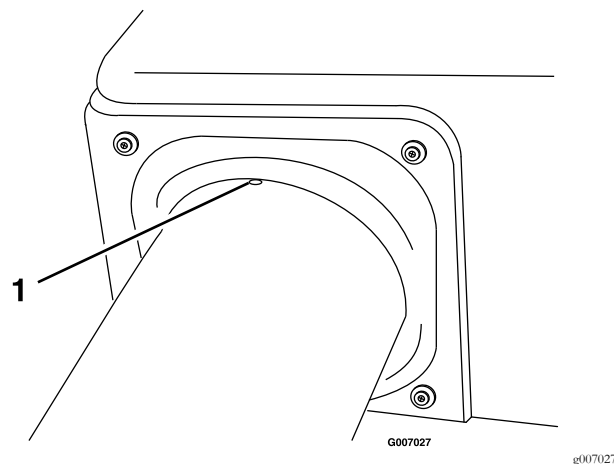

Figure 16
- 23. Align the dimple on the upper tube with the end of hood seal and center between the two screws as shown in Figure 16.